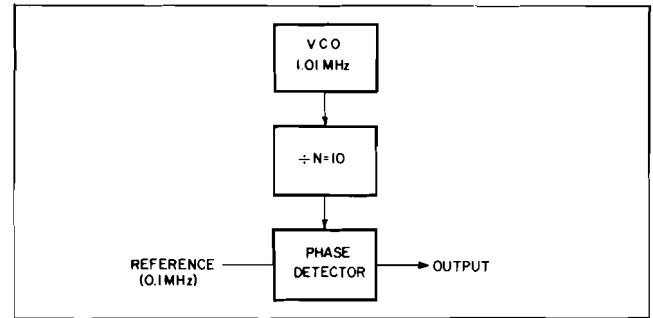

Figure 8-25. Basic Diagram, Open Loop N Step Loop.
0.1 MHz = 1.01 MHz). This configuration is shown in the block diagram of Figure 8-25. The phase detector compares the low-to-high transitions of the reference and divide-by-N signals. Since the VCO is not operating at N times the reference but operates with a fractional component ($F=0.01$ MHz), the signal from the divide-by-N block advances on the reference signal. Each time the divide-by-N signal makes a low-to-high transition, the phase detector compares it to that of the reference. The phase detector generates an output proportional to the period between the two low-to-high transitions. In the phase-locked condition of a N Step Loop this period remains constant. In this open loop example with the VCO containing a fractional component, the period between low-to-high transitions is continuously increasing, therefore, the phase detector output voltage consequently is increasing.
8-165. When analyzing the open loop N Step Loop, it is of interest to view the operation in terms of reference periods. A reference period is defined as the time required for the reference signal to complete one cycle. Each reference period the reference signal goes through one cycle while the VCO which is operating 10.1 times as fast, goes through 10.1 cycles. We can say the VCO has advanced one-tenth of a cycle of phase on the integer part $N \times \text{fref}$ ($\text{fref} = \text{reference freq}$) in one reference period. In two reference periods, the VCO has gone 20.2 cycles or advanced two-tenths of a cycle of phase on $N \times \text{fref}$. When the VCO operates with a fractional offset (F), it continually advances phase on $N \times \text{fref}$ each reference period. From the example of Figure 8-25, in ten reference periods, the VCO signal will have gone 101 cycles or advanced one cycle of phase (360°) with respect to $N \times \text{fref}$. Table 8-5 illustrates the phase relationship of $N \times \text{fref}$ and $N.F$. Just as the VCO signal advances phase on $N \times \text{fref}$, the divide-by-N VCO signal applied to the phase detector advances phase on the reference frequency, fref .
8-166. In a N Step Loop, the VCO is phase-locked to a reference signal. With the introduction of the $\div N$ block, the VCO operates at a multiple N of the reference frequency ($N \times \text{fref}$). In a N.F Loop, the VCO operates at an integer-plus-fractional multiple of the reference frequency ($N \times \text{fref} + F = N.F$). As previously illustrated in Figure 8-25, assume again the VCO operates at 1.01 MHz, the